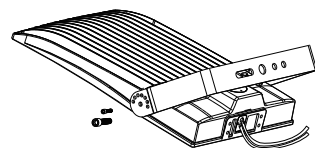

Figure 7
- Step 1: First install two big screws. (Figure 7)